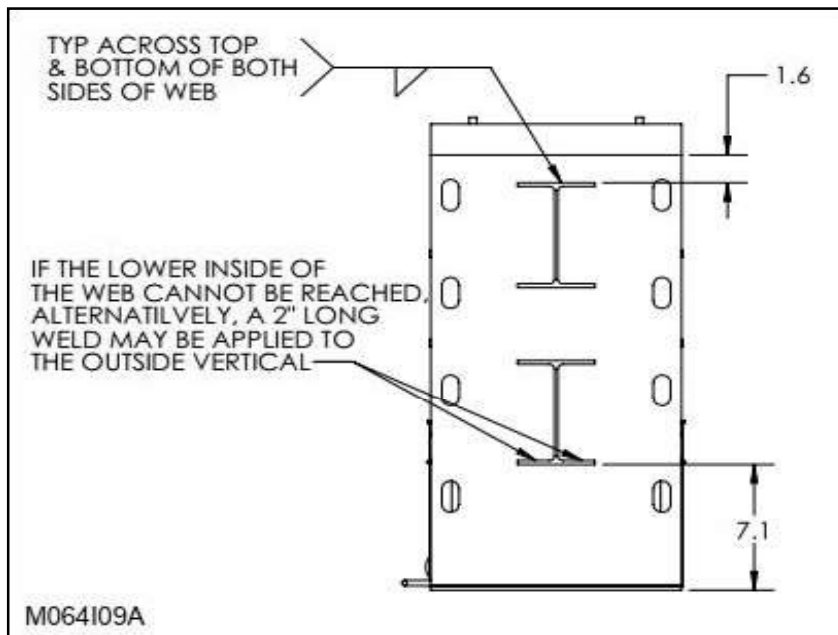

Figure 19: Restraint / Extension Plate Weldment
4. Weld restraint to the lagged in extension plate or cast in weld plate following the weld pattern shown in "Figure 19: Restraint / Extension Plate Weldment" on page 22.